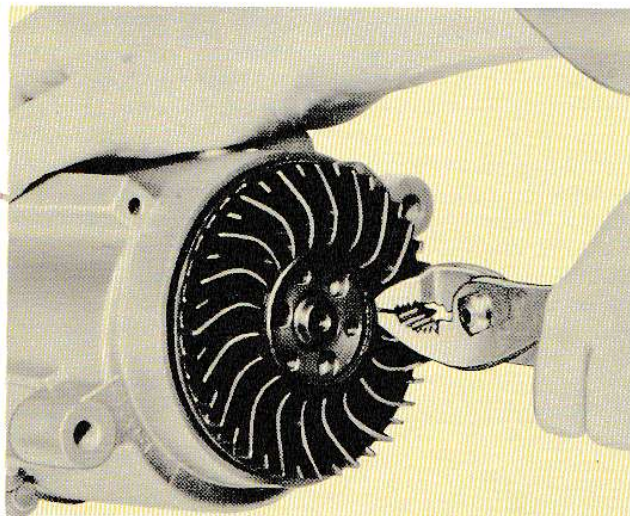

Fig. 15 — Centrifugal Filter Fan Removal
3. Pry the outer disc loose and then pull off the centrifugal filter fan as shown in Fig. 15. Care should be taken to prevent fragments from entering the air intake hole if the fan breaks during removal. *Do not attempt to remove the metal drive hub.*
4. Install the new filter fan by drawing it into position, using the pulley and bolts as an installer. Draw the fan evenly by alternately tightening the bolts, making certain that the outer edge of the fan slips into the housing (Fig. 15).